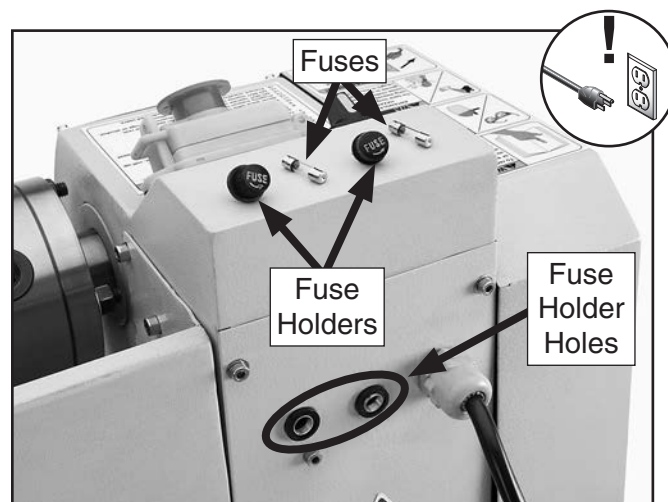

Figure 148. Fuse holders and fuses (Model G0768 shown).
2. Unthread fuse holders (see **Figure 148**) by rotating them counterclockwise, then remove fuses.